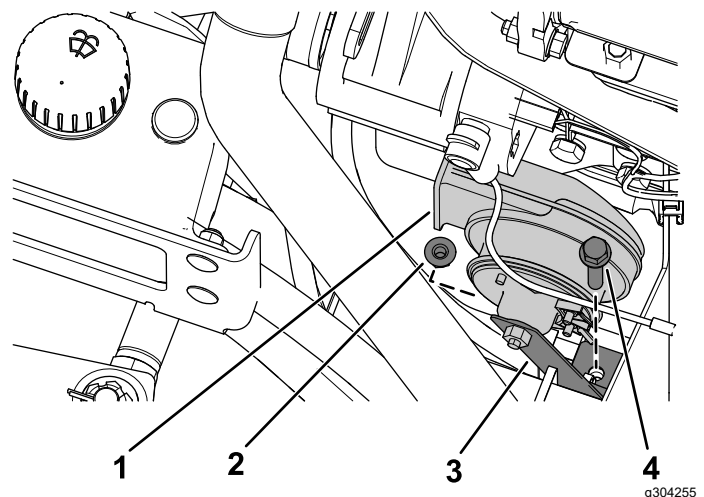

Figure 33
13. Secure the horn to the horn-mounting bracket using the previously removed bolt and nut (Figure 33).